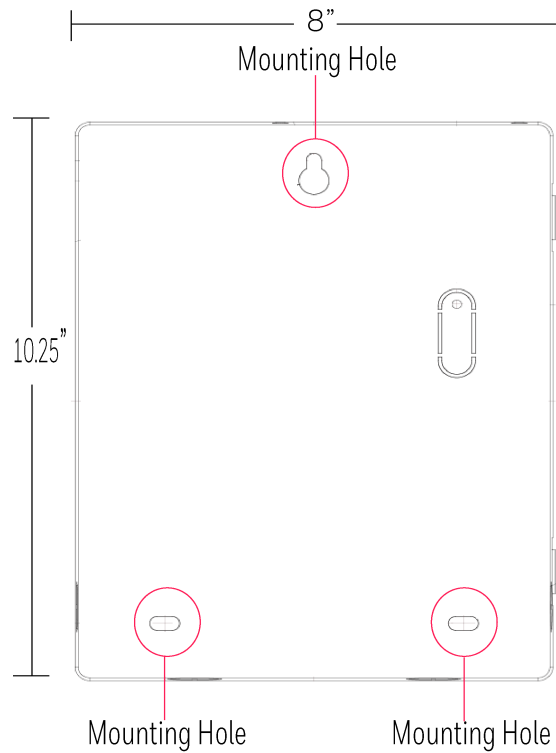

Figure 4.2: Mounting the Backbox
8. Mark and pre-drill the hole for the top mounting bolt (see Figure 4.2).